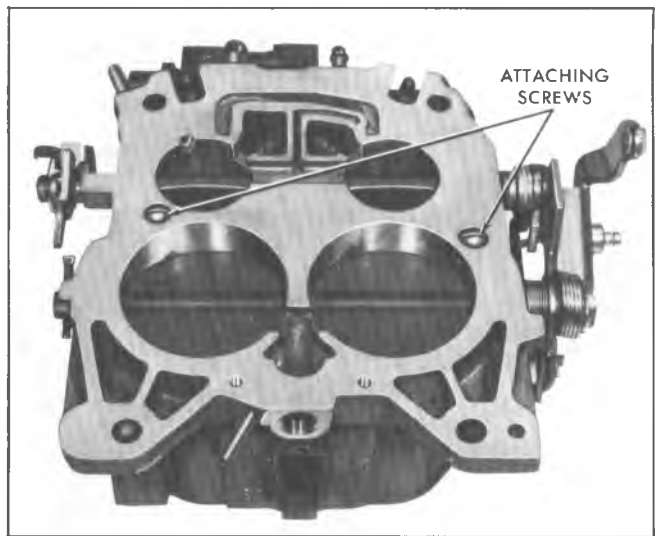

Fig. 18MQ-Removing Throttle Body
4. Remove throttle body by removing throttle body to bowl attaching screws (Fig. 18MQ).
2. Install throttle body making certain throttle body is properly located over dowels on float bowl, then install throttle body to bowl screws and tighten evenly and securely (Fig. 18MQ).